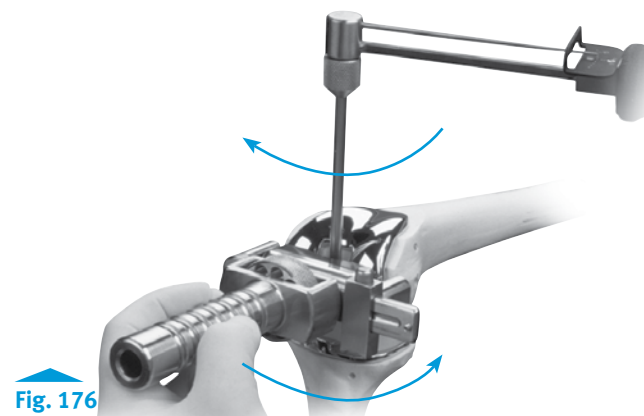

Fig. 176
- Leave the driver in the hinge post extension. Attach the Spanner Wrench to the two tabs on the outside of the medial and lateral femoral component. Thumb tighten the knurled wheel to snug the wrench to the distal femoral condyles. Attach the RH Knee Deflection Beam Torque Wrench to the driver, and apply 130 in.-lbs. (15n-m) of torque until the needle on the wrench reaches the appropriate mark on the torque wrench (Figs. 176, 177 and 178). While torque is being applied, counter rotation is applied using the Spanner Wrench.